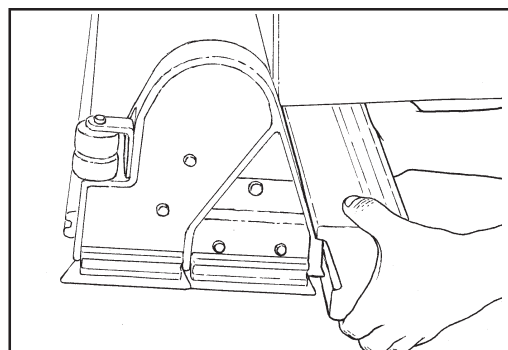

Figure 29
7. The debris tray needs to be emptied regularly to prevent over flow. To remove the debris tray from the machine, follow this procedure (see figure 29):